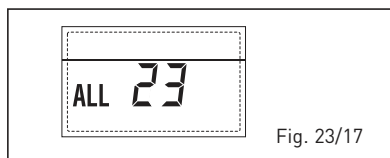

Fig. 23/17
– **ANOMALIA Sonda COLLETTORE SOLARE (S1) “ALL 24”** (fig. 23/18)